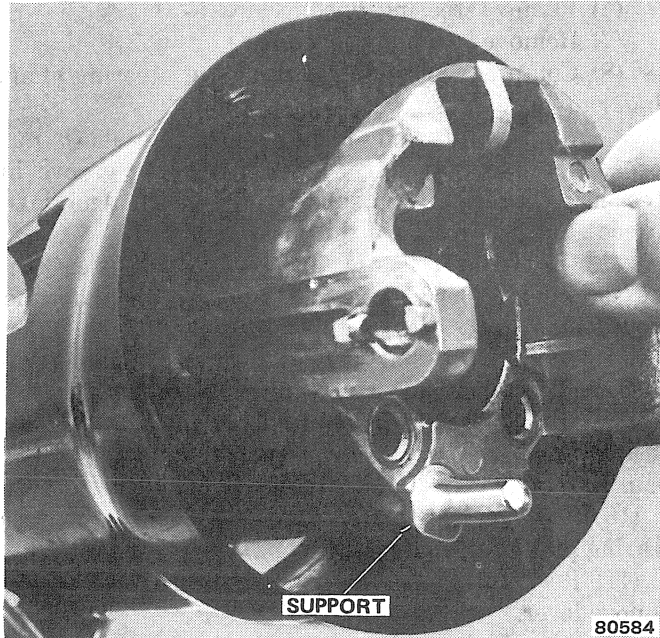

Fig. 2J-63 Support Installation
- (9) Install steering shaft in column (fig. 2J-58).
- (10) Install replacement bearings in housing, if removed. Be sure to lubricate bearings with chassis grease before installation.
- (11) Install lock shoes, lock shoe springs, and lock shoe pin in housing. Use 0.180-inch (4.5 mm) diameter rod to align lock shoes and pin during installation.
- (12) Install release lever, lever spring, and lever pin in housing. Insert wedges between housing and lever to relieve spring tension and ease pin installation (fig. 2J-57).
- (13) Install sector shaft in housing. Lightly tap shaft into housing using punch.
- (14) Install lock sector on shaft. Lightly tap sector onto shaft until shaft snap ring groove is exposed and install sector retaining snap ring.